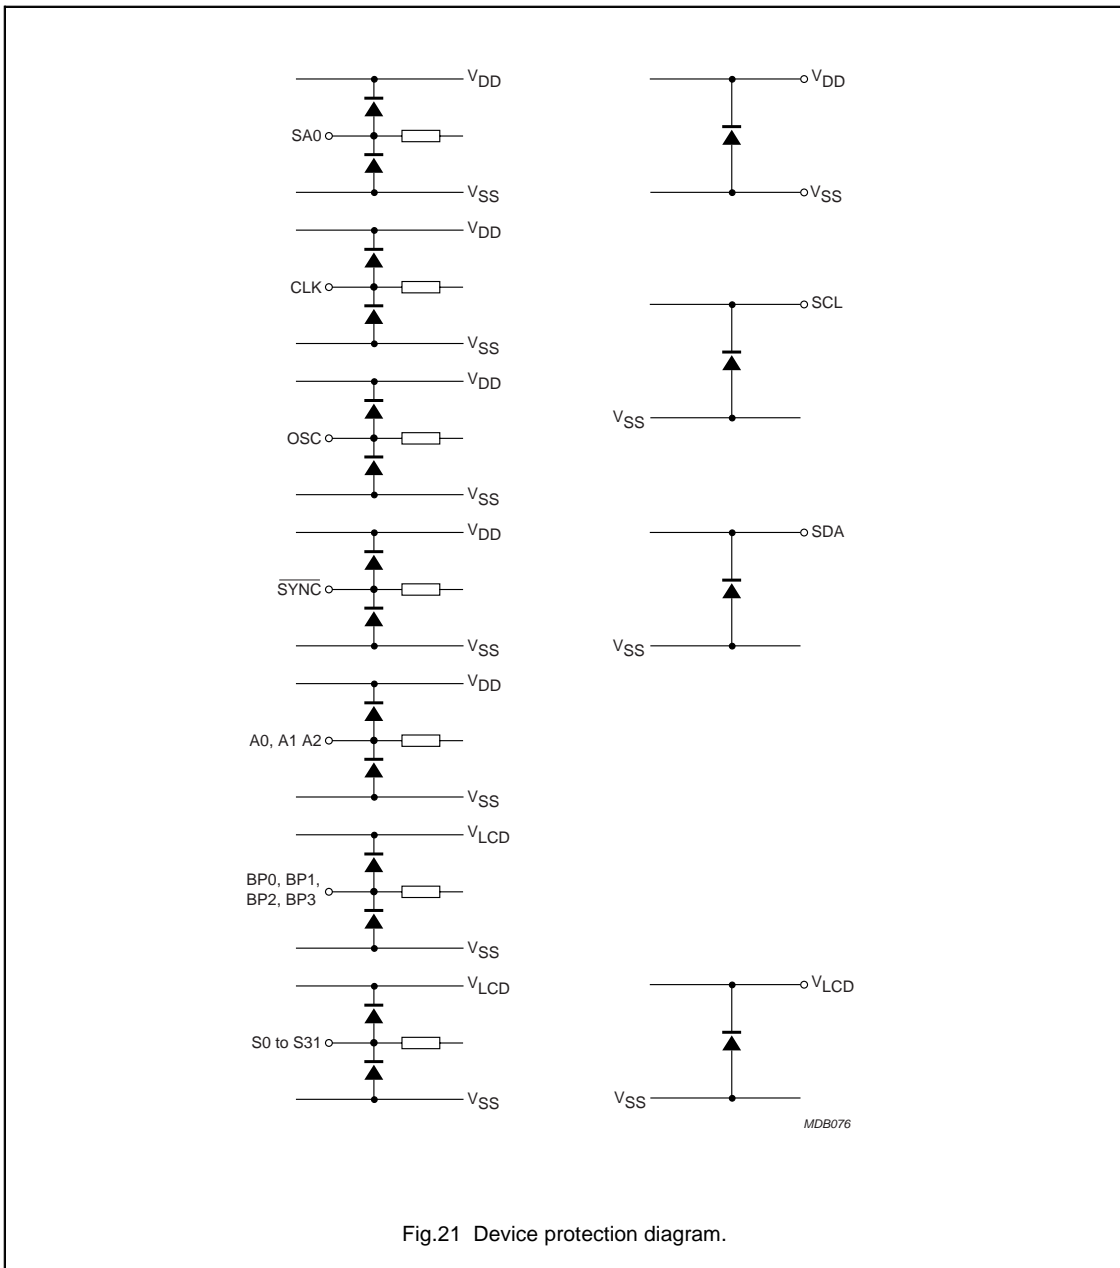

Fig.21 Device protection diagram.
- When tested, I²C pins SCL and SDA have no diode to V_{DD} and may be driven according to the V_{i2} limiting values given in Chapter 8. Also see Fig.21.